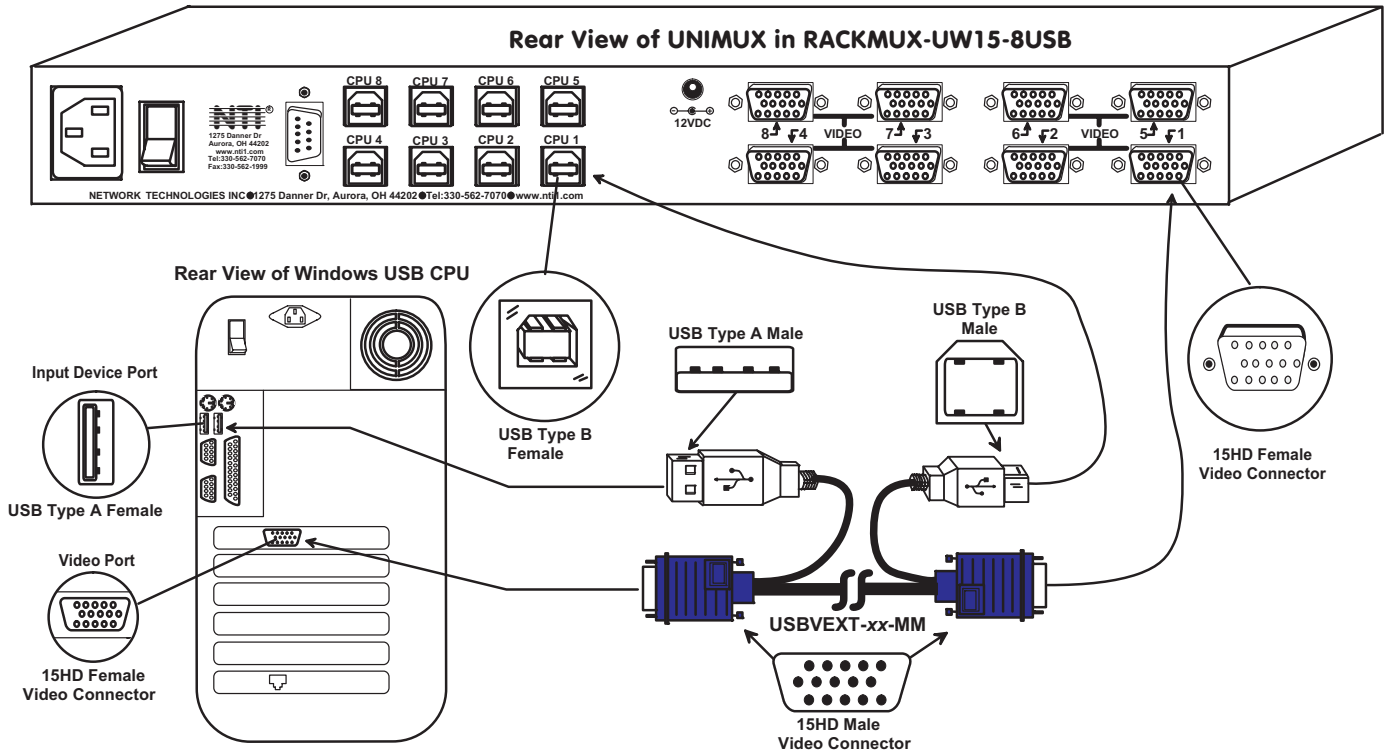

Figure 2- Connect each CPU
1. Connect each CPU to the UNIMUX switch using a USBVEXT-xx-MM video and input device interface cable – REQUIRED (not supplied). (See Fig. 2 on page 5.)